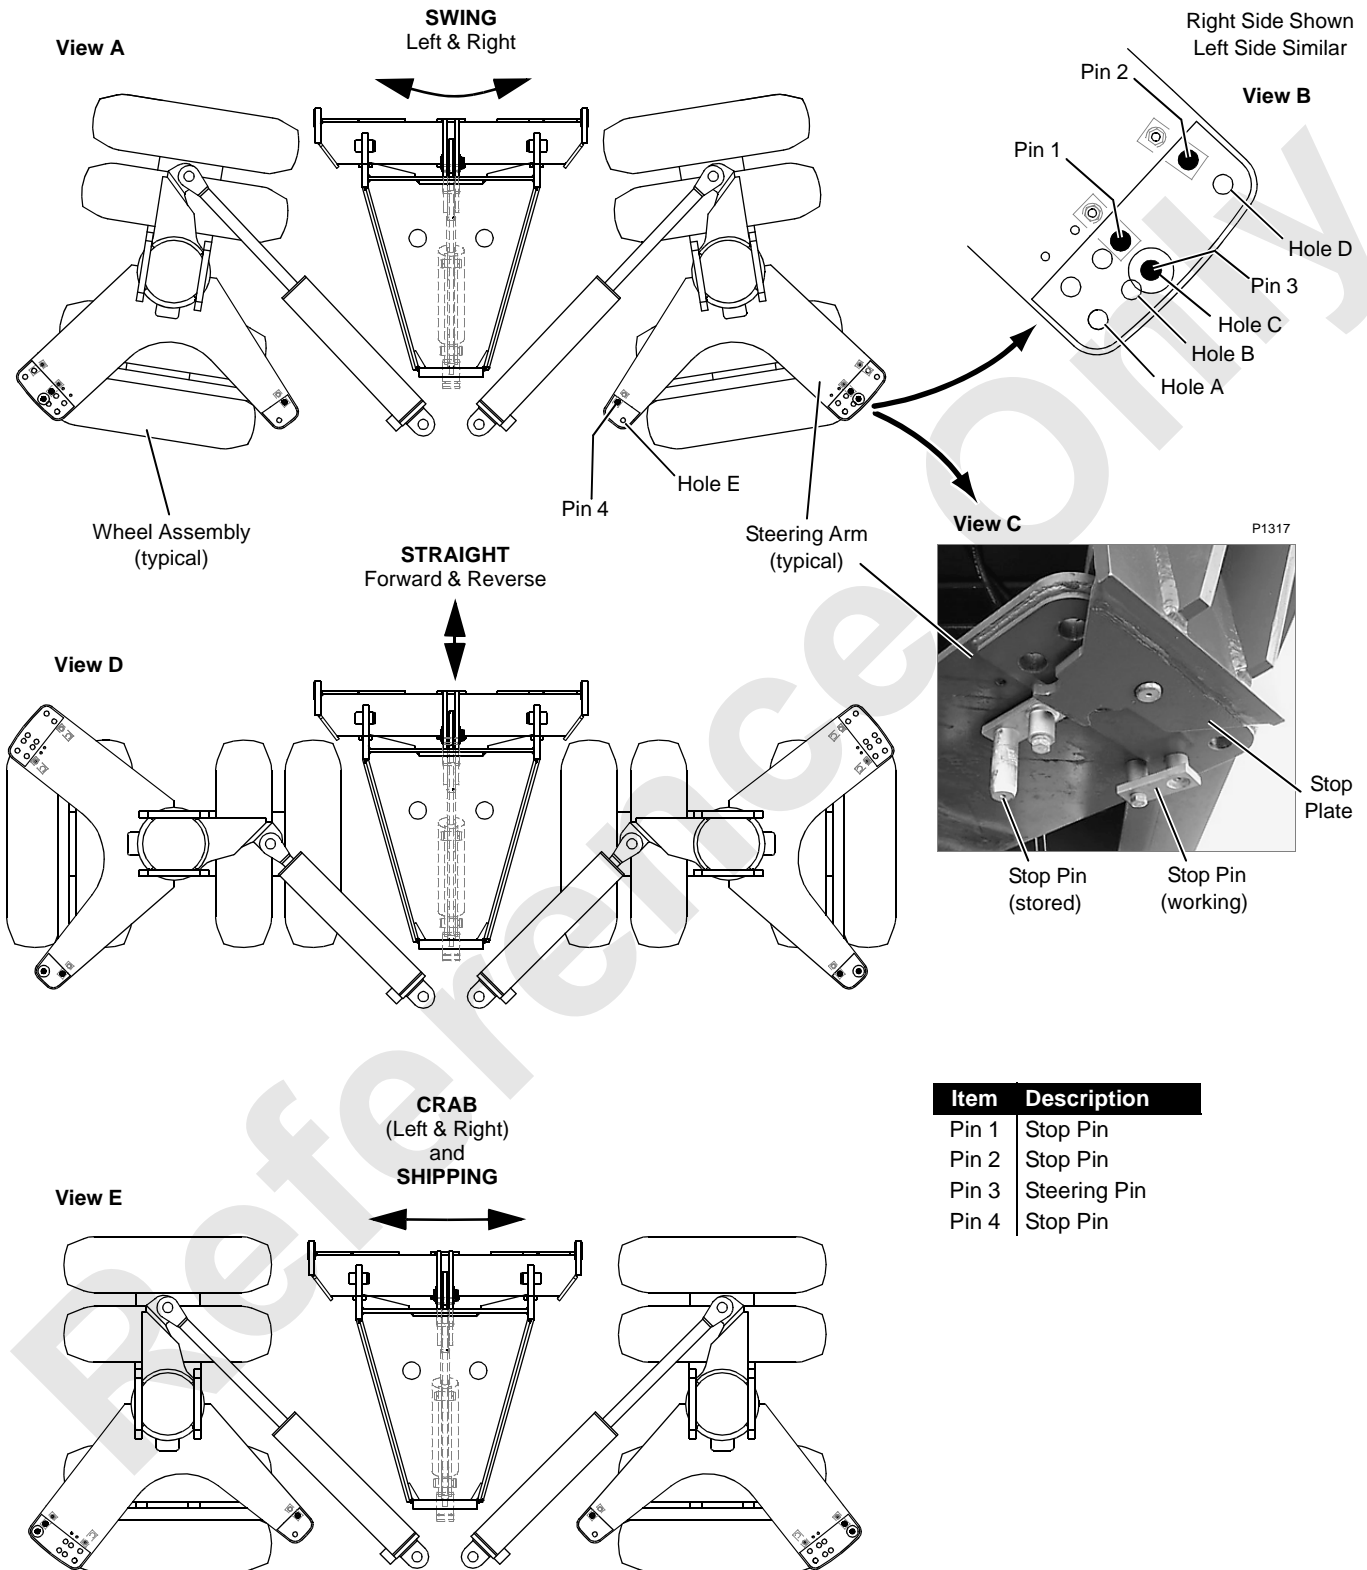

FIGURE 3-20
- Check that strut and drawbar pins are in proper positions (see Figure 3-20). Hydraulic cylinders and other wheeled counterweight assembly components may be damaged.
The axle wedges (Figure 3-20, View B) stabilize the trailer when it is disconnected from the crane.
- Install pins in proper position prior to jacking or performing other procedures. See Figure 3-20 and Table 3-3 for correct pin and wedge positions.